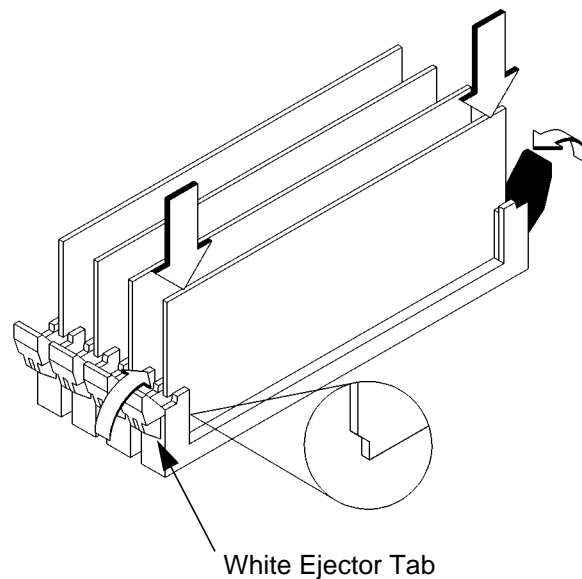

Figure 47
- 3 Close the ejector tabs on each side of the memory connector to lessen the force required to seat the memory module, as shown in Figure 47.
- 4 Line up the memory module with the guides making sure that the notched end of the memory module is toward the white ejector tab (front of the main tray), as shown in Figure 47.